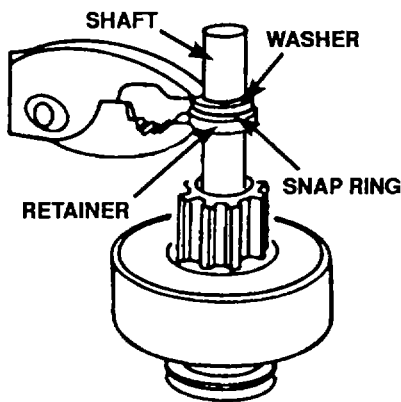

Figure 4-62. Securing Drive Retainer
31. Squeeze retainer and washer together with pliers. Remove washer (figure 4-62).